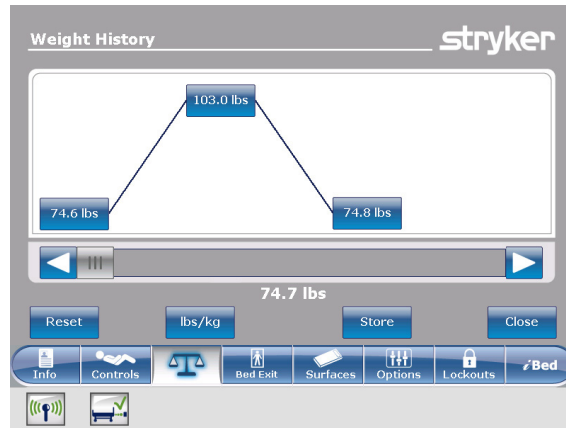
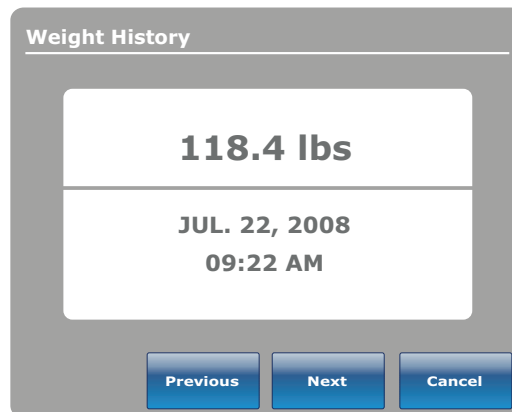

Figure 30 – Weight history
Figure 31 – Weight history information
To reset the stored weight histories, tap **Reset** (Figure 30).
1. Tap a weight value in the weight history screen (Figure 30). Each value displays the time and date of the measurement (Figure 31).